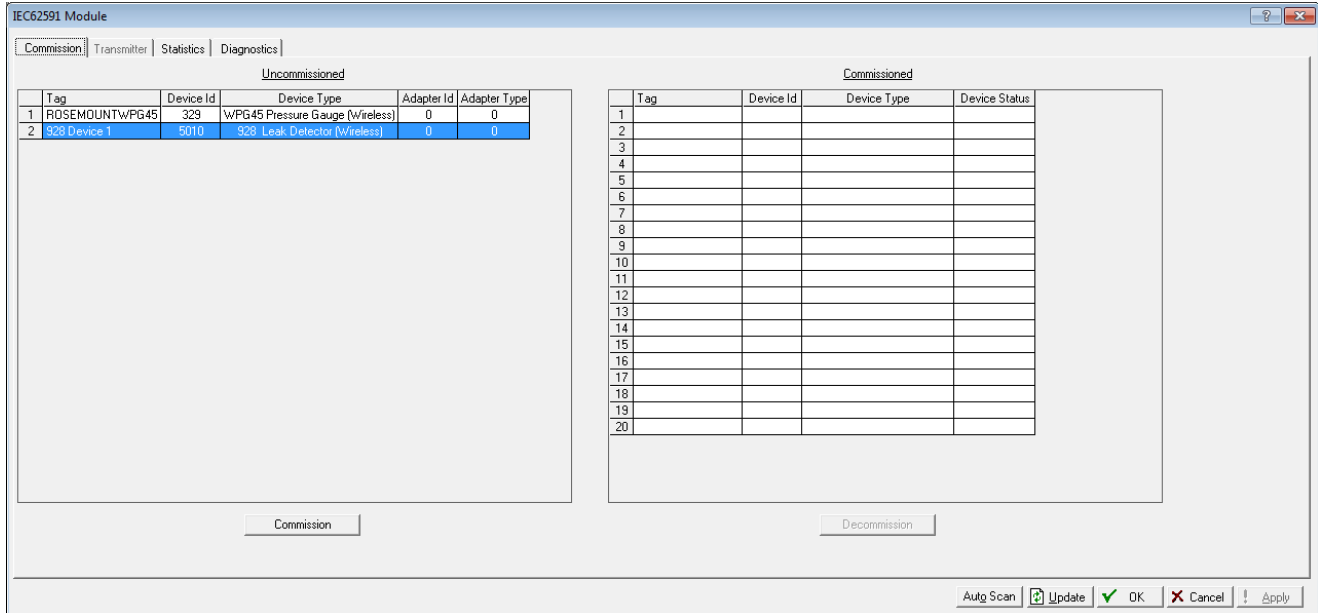

Figure 3-5. Commission tab
- Select the device (see *Figure 3.5*) and click **Commission**. ROCLINK 800 places the device in the **first available** empty row on the Commissioned list.